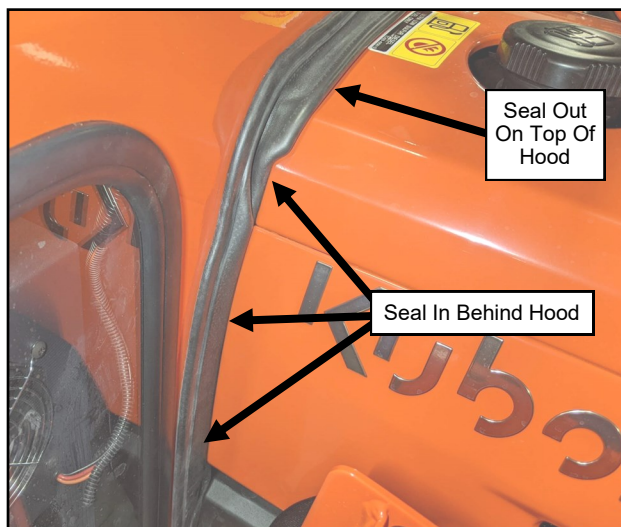

Fig. 6.4 (Right Side Of Hood And Cowl)
- 6.4 On the right side, pull the cowl seal out on top of the hood in the center, then transition it to behind the hood at the corner. See Figure 6.4.